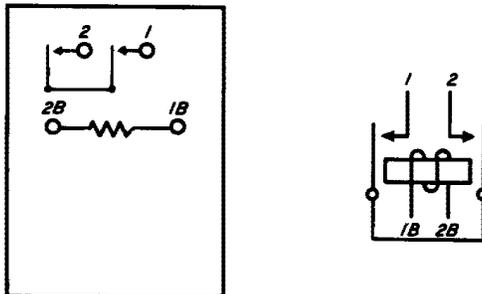

Fig. 85 - Winding and Spring Terminal Arrangement (terminal side) — KS-5350 and KS-5451 Relays Having Two Horizontal Rows of Terminals
2.89 Where the relay has two horizontal rows of terminals the bottom row is designated by the letter B preceded by the same number as the nearest terminal above. (See Fig. 85.)